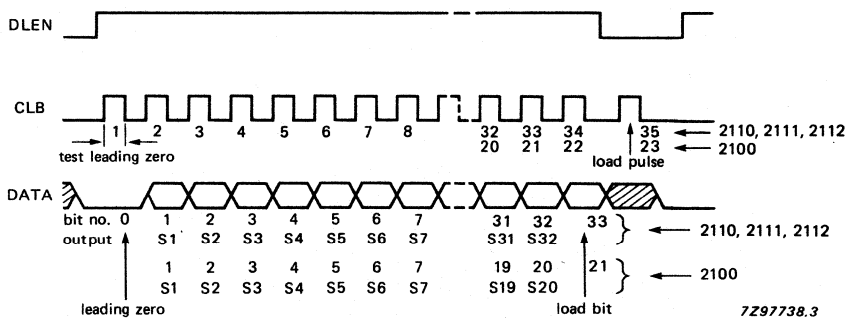

Fig. 10 CBUS data format.
(1) Load pulse 23 (for PCF2100).
(2) Load pulse 35 (for PCF2110, PCD2111 and PCF2112; see Fig. 10).